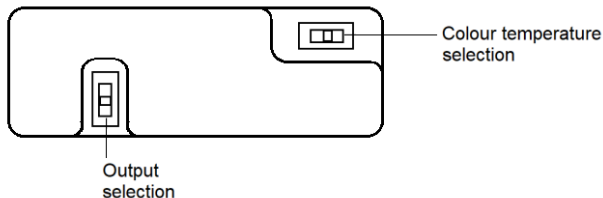

Fig. 2
- Choose the required driver output and colour temperature via the switches on the driver (see Fig. 2)